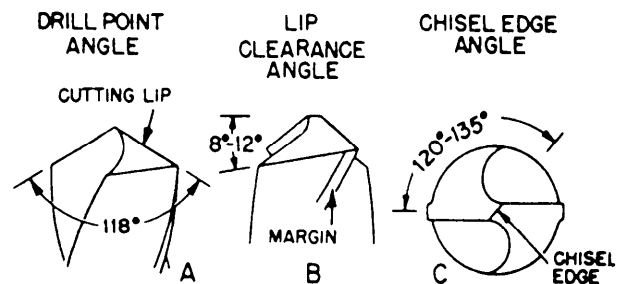
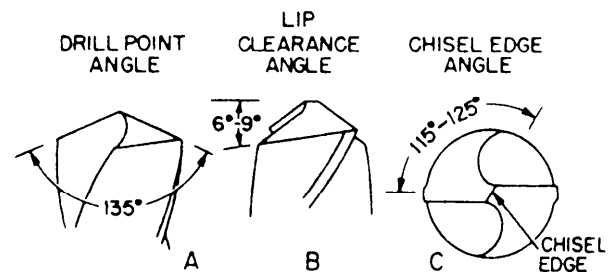

Figure 5-30.—Specifications for grinding a regular point twist drill.
Figure 5-31.—Specifications for grinding a flat point twist drill.
angles must be equal and correctly sized, (2) cutting lips must be of equal length, (3) the clearance behind the cutting lips must be correct, and (4) the chisel-edge angle must be correct. All four are equally important when grinding either a regular point (fig. 5-30) used for general purposes, or a flat point (fig. 5-31) used to drill hard and tough materials.
You determine lip clearance behind the cutting lip at the margin by inspection. This means you look at the drill point and approximate the lip-clearance angle (see figs. 5-30, view B, and 5-31, view B), or compare it to the same angle that has been set on a protractor. The lip-clearance angle is not necessarily a definite angle, but it must be within certain limits. Notice that this angle ranges from 8° to 12° in figure 5-30, view B and from 6° to 9° in figure 5-31, view B. Whatever angle in the range is used, however, lip clearance should be the same for both cutting lips.
When you grind lip clearance, use the lip-clearance angle and the chisel-edge angle (shown in figs. 5-30, view C and 5-31, view C) as your guide to the amount of clearance you have ground into the drill behind the cutting lip along its entire length. The greater these angles are, the more clearance there will be behind their respective ends of the cutting lip. Too much lip clearance occurs when both the lip-clearance angle and the chisel-edge angle exceed their top limits. This weakens the cutting edge or lip by removing too much metal directly behind it. Too little or no lip clearance prevents the cutting edge from producing a chip, and the drill bit will not drill a hole.